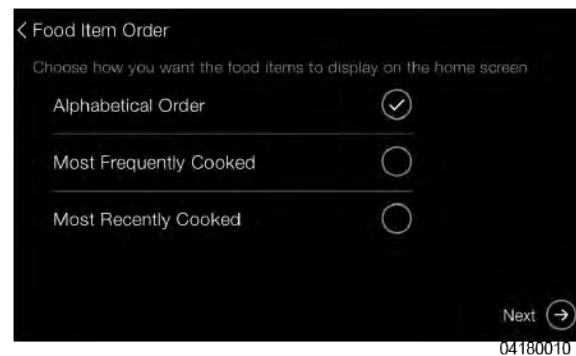

Figure 3-7
- 29) Select how you would like food items to be displayed on the home screen. Choose from alphabetical order, most frequently cooked or most recently cooked, see Figure 3-7 , page 15.